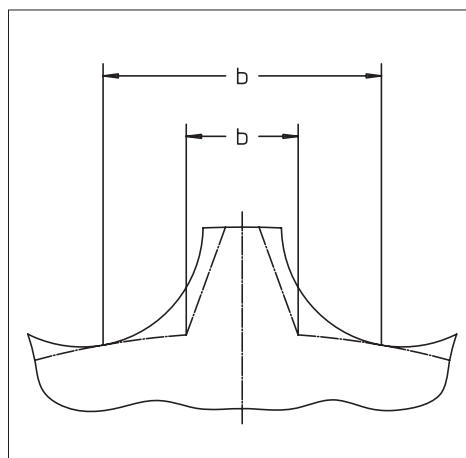

Fig. 7
*A comparison of the bending stress on the tooth base occurring with involute toothings and circular toothings yields a significant lower value for the circular toothings. (Fig. 7)*